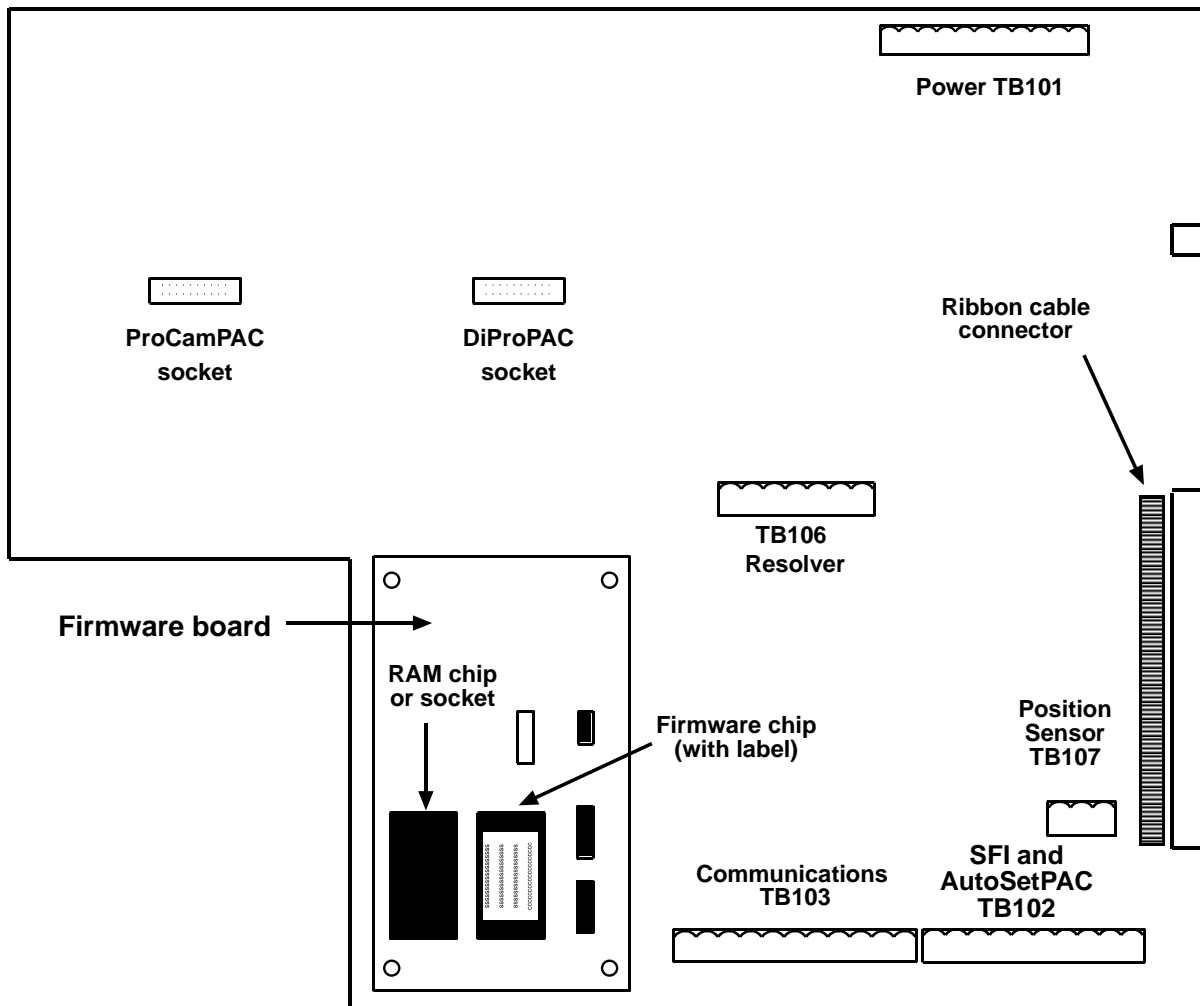

Figure 2-1. SmartPAC Processor Board: Location of Important Components
2. Making sure that you are grounded, open the SmartPAC enclosure and find the SmartPAC firmware board, which is located in the lower left corner of the SmartPAC processor board (see Figure 2-1, next page).
The white label on the firmware chip on the SmartPAC firmware board (see Figure 2-1) provides SmartPAC firmware identification information, including version number.
- Remove the new SmartPAC firmware board from its package and plug it into the SmartPAC processor board so that the RAM and firmware chips are at the bottom, as shown in Figure 2-1.
2. Locate terminal TB102 on the SmartPAC processor board (see Figure 2-1, page 9) or TB103 on the SmartPAC 2 board). Next, find the RS-232 serial communications port (Port #2) on the front of the feed controller and the DB-25 connector on the feed's operator terminal board.
3. Locate terminal TB102 on the SmartPAC processor board (see Figure 2-1, page 9) or TB103 on the SmartPAC 2 board. Next, find the RS-232 port (Port #2) at the bottom of the feed controller.